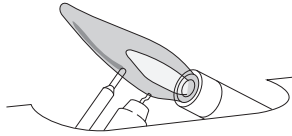
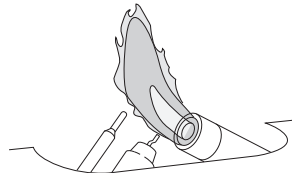

Figure 19 - Correct Pilot Flame Pattern
Figure 20 - Incorrect Pilot Flame Pattern
4. Wait five (5) minutes to clear out any air. Then smell for gas, including near the floor. If you smell gas, STOP! Follow "B" in the safety information, page 14. If you do not smell gas, go to the next step.
5. Turn control knob counterclockwise ↻ to the PILOT position. Press in control knob for five (5) seconds (see Figure 19).
Figure 19 shows a correct pilot flame pattern. Figure 20 shows an incorrect pilot flame pattern. The incorrect pilot flame is not touching the thermocouple. This will cause the thermocouple to cool, which shuts the heater off. If pilot flame pattern is incorrect, as shown in Figure 20